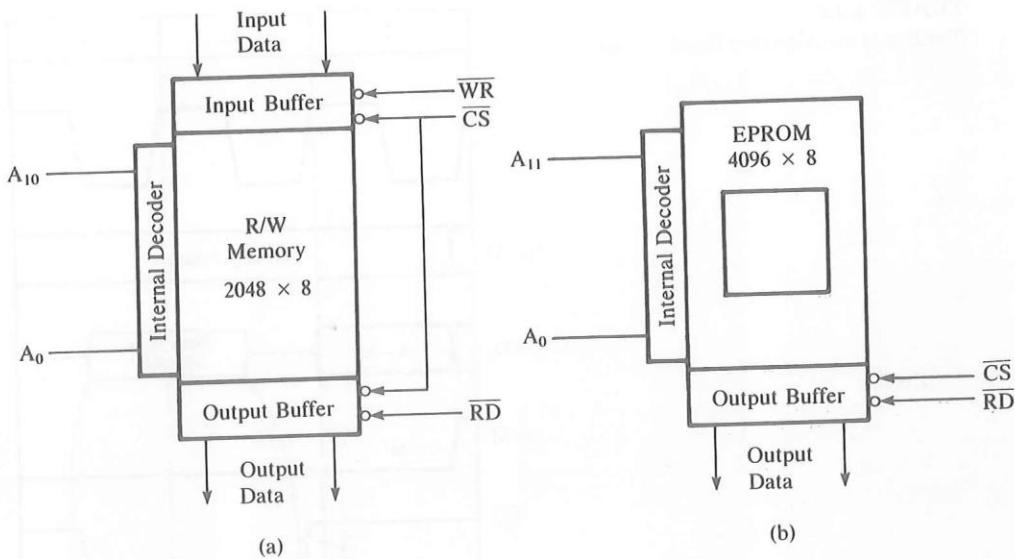

FIGURE 4.11
As discussed in Chapter 3, Read/Write memory (R/WM) is a group of registers to store binary information. Figure 4.11(a) shows a typical R/W memory chip; it has 2048 registers and each register can store eight bits indicated by eight input and eight output data lines.* The chip has 11 address lines $A_{10}-A_0$, one Chip Select (CS), and two control lines: Read (\overline{RD}) to enable the output buffer and Write (\overline{WR}) to enable the input buffer. Figure 4.11(a) also shows the internal decoder to decode the address lines. Figure 4.11(b) shows the logic diagram of a typical EPROM (Erasable Programmable Read-Only Memory) with 4096 (4K) registers. It has 12 address lines $A_{11}-A_0$, one Chip Select (CS), and one Read control signal. This chip must be programmed (written into) before it can be used as a read-only memory. Figure 4.11(b) also shows a quartz window on the chip that is used to expose the chip to ultraviolet rays for erasing the program. Once the chip is programmed, the window is covered with opaque tape to avoid accidental erasing. For interfacing the R/W memory, Figure 4.11(a), and the EPROM, Figure 4.11(b), the process is similar; the only difference is that the EPROM does not require the \overline{WR} signal.
1. The 8085 places a 16-bit address on the address bus, and with this address only one register should be selected. For the memory chip in Figure 4.11(a), only 11 address lines are required to identify 2048 registers. Therefore, we can connect the low-order address lines A_{10} - A_0 of the 8085 address bus to the memory chip. The internal decoder of the memory chip will identify and select the register for the EPROM, Figure 4.11(a).
The process of address decoding should result in identifying a register for a given address. We should be able to generate a unique pulse for a given address. For example, in Figure 4.11(b), 12 address lines ($A_{11}-A_0$) are connected to the memory chip, and the remaining four address lines ($A_{15}-A_{12}$) of the 8085 microprocessor must be decoded. Figure 4.14 shows two methods of decoding these lines: one by using a NAND gate and the other by using a 3-to-8 decoder. The output of the NAND goes active and selects the chip only when all address lines $A_{15}-A_{12}$ are at logic 1. We can obtain the same result by using O_7 of the 3-to-8 decoder, which is capable of decoding eight different input addresses. In the decoder circuit, three input lines can have eight different logic combinations from 000 to 111; each input combination can be identified by the corresponding output line if Enable
Step 2: The decoder is used to decode four address lines $A_{15}-A_{12}$. The output O_0 of the decoder is connected to Chip Enable (CE). The CE is asserted only when the address on $A_{15}-A_{12}$ is 0000; A_{15} (low) enables the decoder and the input 000 asserts the output O_0 .
Step 3: For this EPROM, we need one control signal: Memory Read (MEMR), active low. The MEMR is connected to OE to enable the output buffer; OE is the same as RD in Figure 4.11.